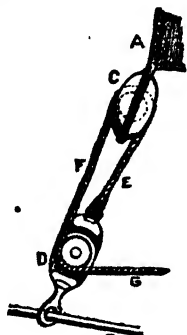

FIG. 9.
The position of the main-sail is regulated by the *main-sheet*, N, the most important rope in the boat. As there is much strain upon it, a system of *blocks*—pulleys contained in wooden cases or “shells”—is used to gain power. Such a combination of blocks is called a *tackle* (pronounced “taykle”); a more powerful combination is a *purchase*. Fig. 9 shows the smallest and least powerful kind of tackle, sufficient, however, for the sheet of a small boat. It consists of two blocks, C and D: the lower one (shown in section) usually slides across the boat, as the sail changes sides, along an iron bar, B, called a *horse* or *hawse*. When there is no bar and the sail has no boom, the lower block is hooked to a ring on the lee side of the boat, and shifted across by hand as required. The rope in every tackle, &c., is divided into the *standing* part (E in Fig. 9), between the fixed end and the first pulley it passes through; the *running* part (F), included between the first and last pulleys in the series; and the *fall*, G, the part outside the pulleys altogether. The parts of an ordinary halyard are named in the same way. A is the clew of the sail.
The *fore-sail*, A, usually, though not always, acts the part of a *fore-stay*, for which purpose a stout rope is sewn along its fore-leach to strengthen it. The “tack” of the fore-sail hooks or fastens to a ring on the stem, or else to the bowsprit, and the peak to a single block (one of a pair arranged on the same principle as those in Fig. 9), through which the *fore-halyard*, Q, passes. The upper block of the pair is attached to the mast. Sometimes the upper block is replaced by a sheave in the mast, when the standing part of the rope is fastened to the mast, instead of to the upper block. The fall of the rope is secured somewhere below, and its loose end neatly coiled up.